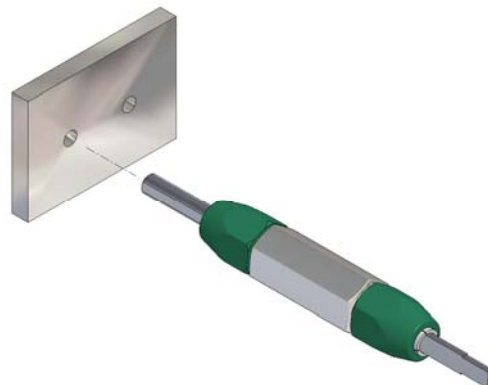

Figure 5-3
5. Verify that the hole has been properly cold expanded. Refer to Figure 5-3.